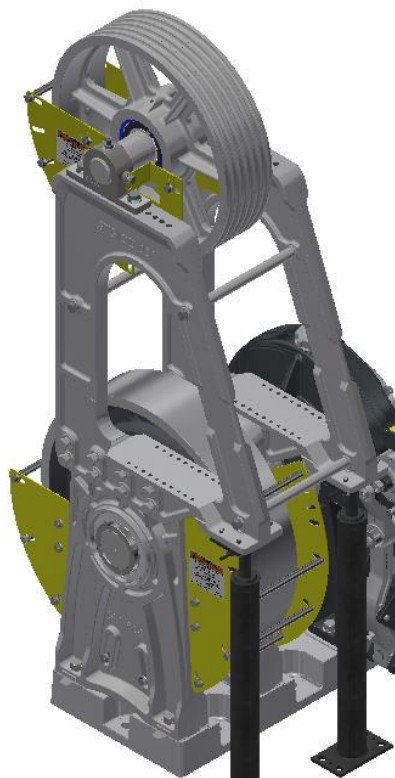

Figure 4-17: Finished GT31 Assembly
- See Figure 4-17 for an illustration of the finished assembly.